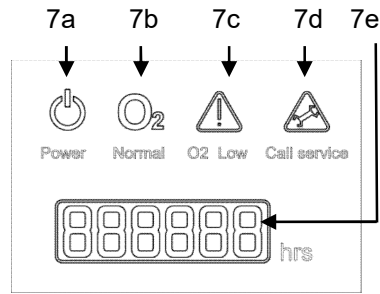

Figure 2-3 LCD Display
7. LCD display: The specific functions are introduced as shown in Figure 2-3.
1. O₂ concentration is greater than 82%. - Green light illuminates (Figure2-3: 7b). Normal Operation.
2. O₂ concentration is less than 82%. - Yellow light illuminate (Figure2-3: 7c) and alarm sounds. Call Supplier Immediately. You may continue to use the concentrator unless instructed otherwise by your supplier. Be certain that BACKUP OXYGEN is nearby.